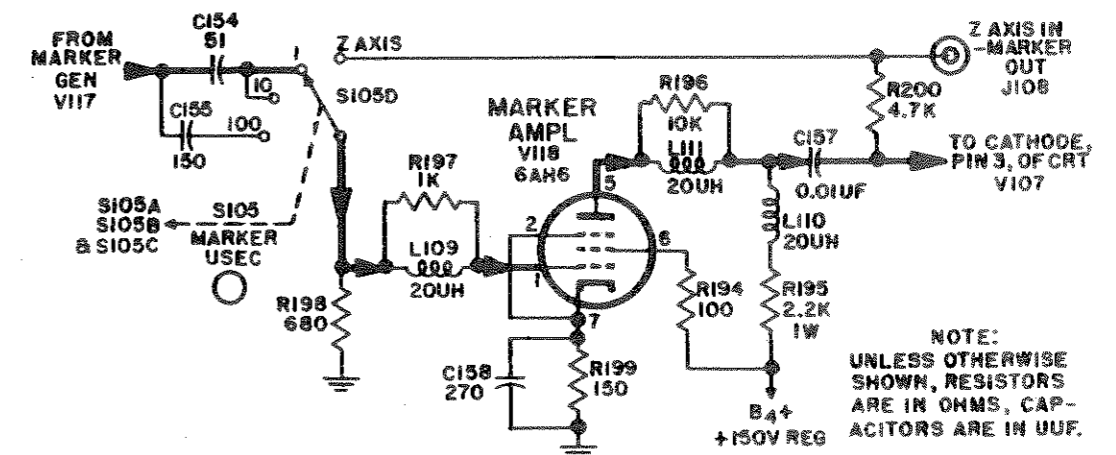

Figure 2-17. Marker Amplifier, Simplified Schematic Diagram.
(3) MARKER AMPLIFIER AND Z AXIS INPUT (See figure 2-17) - The Marker Amplifier V118 is basically a conventional single-ended audio amplifier using a type JAN6AH6. It functions to amplify either the timing markers from the internal Marker Generator V117 or external signals connected at Z AXIS IN jack J108 depending on position of the MARKER U SEC switch S105. In either case the high frequency response is compensated for by series peaking in the grid circuit (L109), and with series and shunt peaking in the plate circuit (L111 and L110 respectively). The small value of the cathode bypass capacitor C158 also increases the high frequency response. In any of the 1, 10, or 100 positions of S105 the grid circuit of V118 is connected to the output of the Marker Generator V117 via either coupling capacitor C154 or C155 and